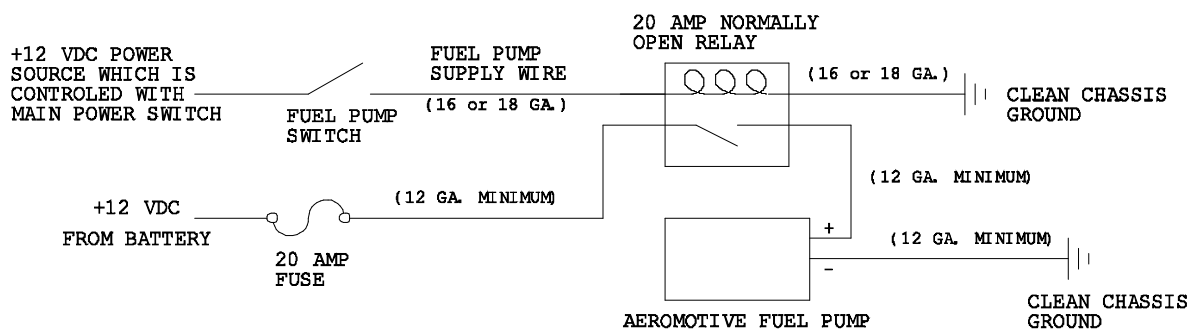

Figure 2-1
4. Install the new Aeromotive fuel tank in the vehicle and make all the appropriate connections. For electrical wiring refer to **Figure 2-1**.